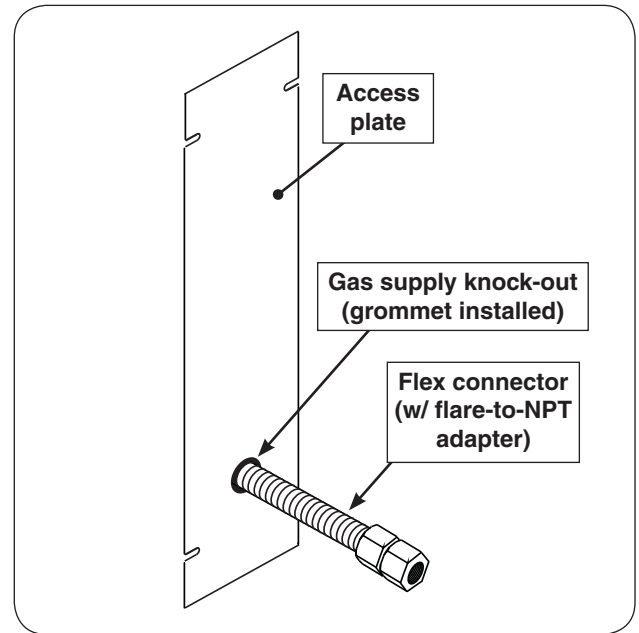

Fig. 15-1 Access plate view & install orientation
2. Remove the plastic grommet (attached to the flex connector) and insert it into the newly created opening. Then route the flex connector through the opening. See Fig. 15-1 and 15-2.